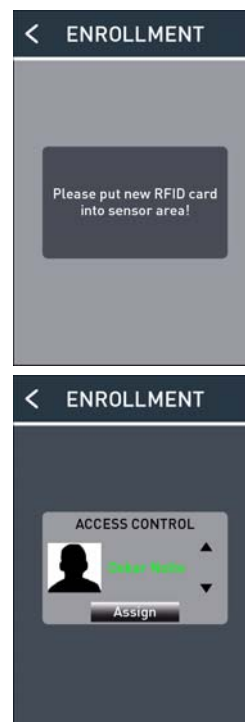

Fig. 25: Assigning the RFID card
- ▶ Select a contact from the list *Access control* and assign the card to the contact (Fig. 25).